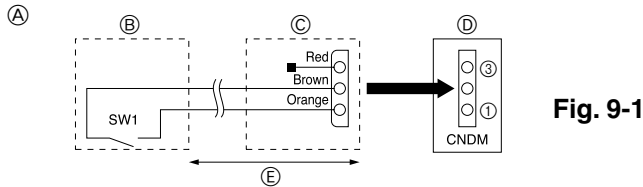

Fig. 9-1
- (A) Circuit diagram example (low noise mode) (B) On-site arrangement (C) External input adapter (PAC-SC36NA) (D) Outdoor unit control board (E) Max. 10 m
9.1. Low noise mode (on-site modification) (Fig. 9-1)